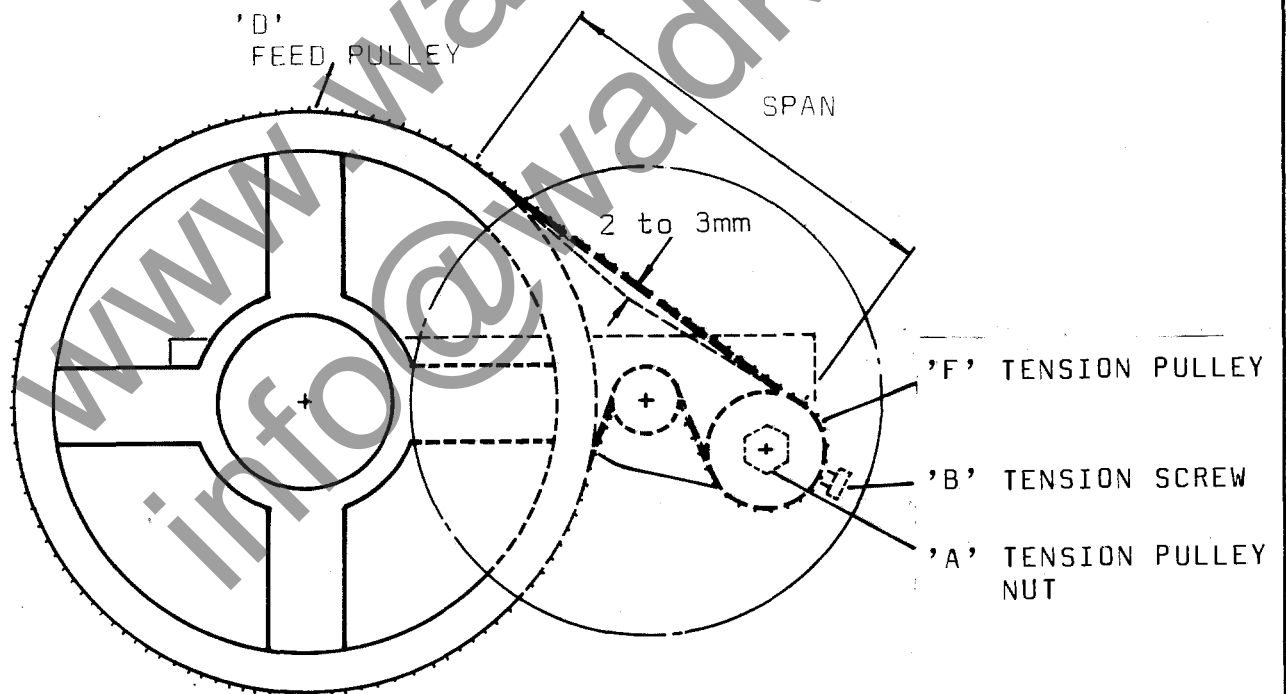

FIG. 23B
- h) Refer to FIG.23B. Position belt around tension pulley 'F' then turn belt so as to reverse teeth from inside of belt to outside. Position belt around feed pulley 'D'.
IMPORTANT: Belt must be tensioned very tight. This will have been achieved when belt can be deflected 2 to 3mm in centre of span FIG.23B.